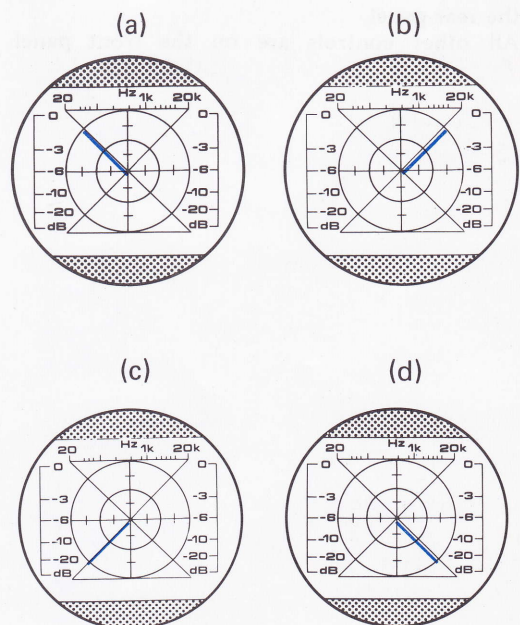

Fig. 9
12. Adjust the VERT and HORIZ GAIN controls to obtain a pattern (line approx 20mm) as shown in Fig. 9-(a).
You should now obtain a pattern as in Fig. 9-(b).
14. Now change the input connection to CH 2 to obtain a pattern as in Fig. 9-(c).
A pattern as in Fig. 9-(d) should appear.